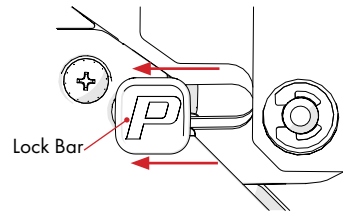

Figure 1
STEP 2 Use **Super Cord** to lift trolling motor up and over the bow. Once the trolling motor is in its properly deployed position, the **Lock Bars** will slide into place. **FIG 1**